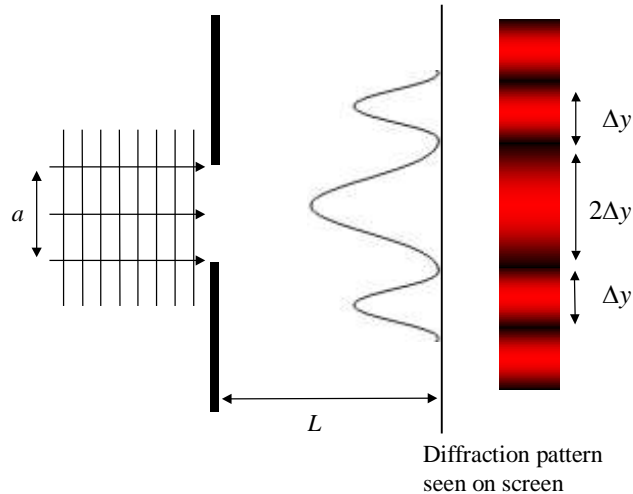

Figure 8 Single-slit diffraction pattern
0.2 Diffraction pattern from a single-slit: Consider a beam of light incident on a barrier consisting of a single slit of width a . If the light passing through the slit is made to fall on a screen a distance L away from the slit, one observes a diffraction pattern of alternating dark and bright fringes on the screen (Figure 8).
except that the dark fringes on either side of the central maximum are a distance $2\Delta y$ apart (refer to Figure 8). Notice the central maximum in a single-slit diffraction pattern has a width $2\Delta y$.
4.4 Determine the average spacing Δy between the dark fringes. Recall that in a single-slit diffraction pattern the width of the central maximum is **twice the width of the other maxima**. You must take this into account when calculating Δy . Refer to Figure 8.